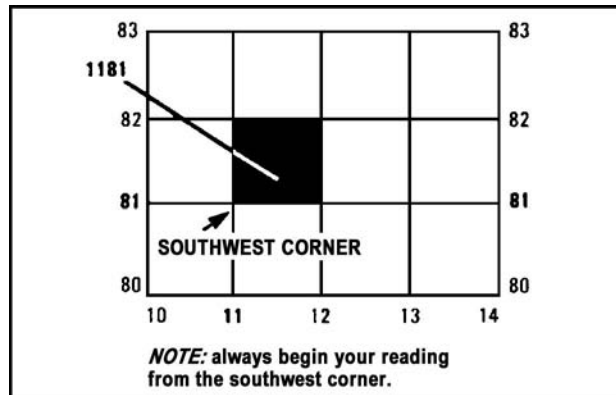

Figure 071-329-1002-1. Grid square 1181
1. Look at figure 071-329-1002-1. Your address is grid square 1181. To determine your address, start from the left and read right until you come to 11, the first half of your address. Then read up to 81, the other half. Your address is somewhere in grid square 1181.